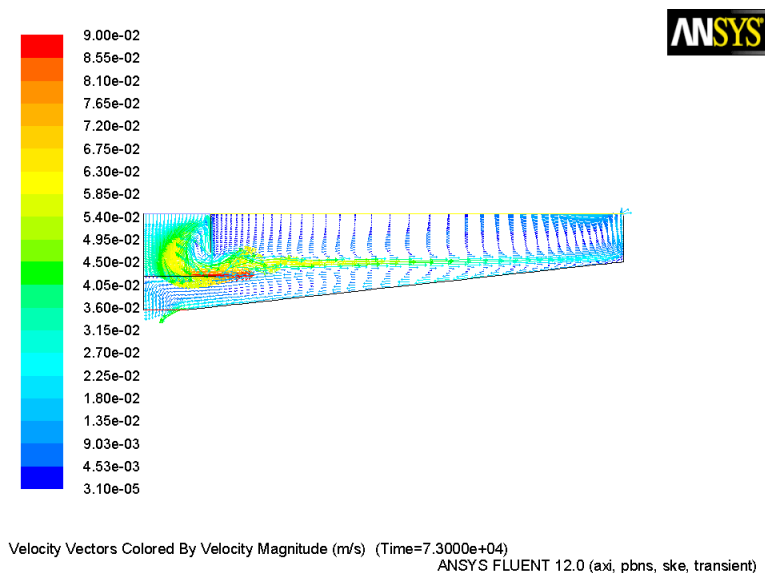

Figure 3: Velocity Vectors
2. Display velocity vectors colored by velocity magnitude (Figure 3).